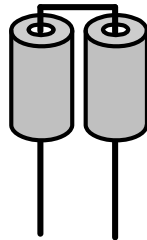

Figure 6-24
- Ferrite-bead assemblies Z1 and Z2 will be installed vertically near transformer T3 as indicated by their component outlines. To make these assemblies, string two ferrite beads onto a 1" (25 mm) length of bare hookup wire (or discarded component leads) as shown in Figure 6-24.